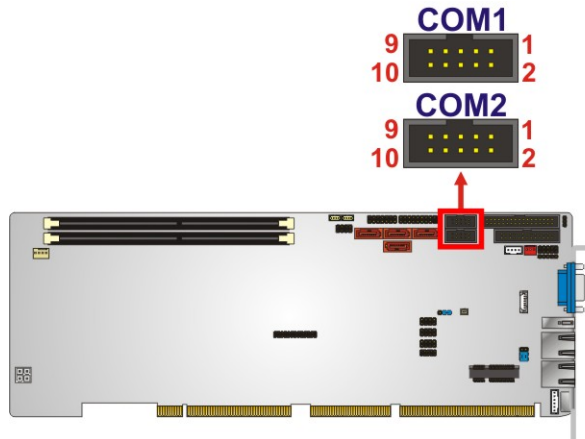

Figure 3-19: Serial Port Connector Location
- CN Location:** See **Figure 3-19**